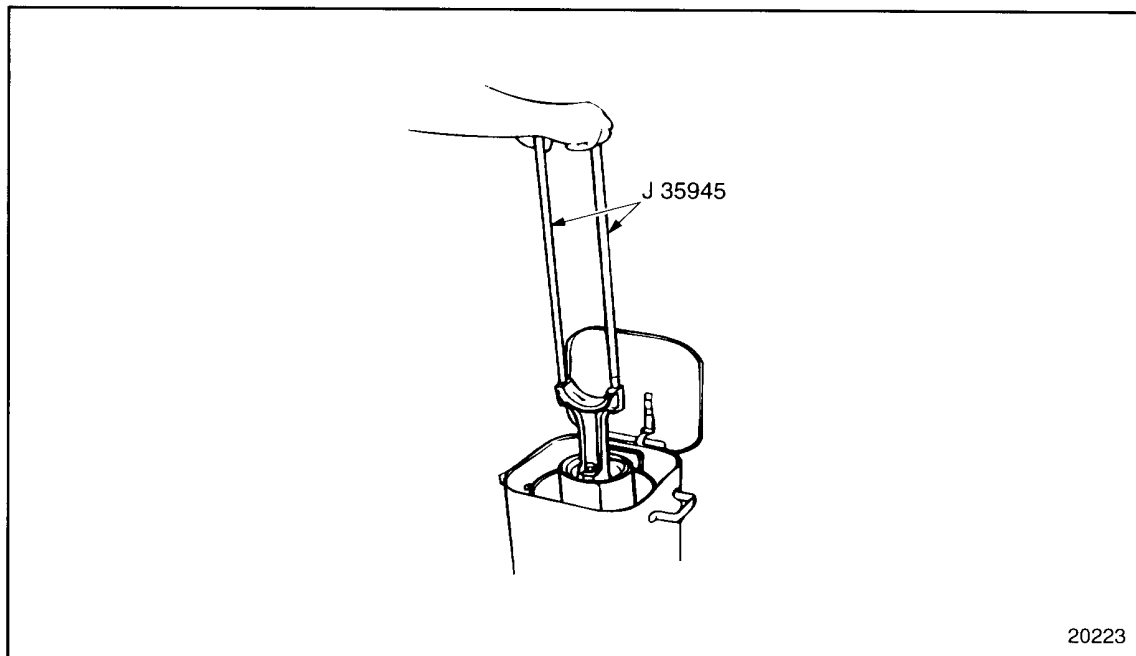

Figure 1-247 Connecting Rod Guides Installation
11. Install connecting rod guides, J 35945, over the ends of the connecting rod bolts to prevent damaging the crankshaft journals or the joint face of the rod. The guides also prevent the connecting rod from contacting the liner and damaging the surface. See Figure 1-247.